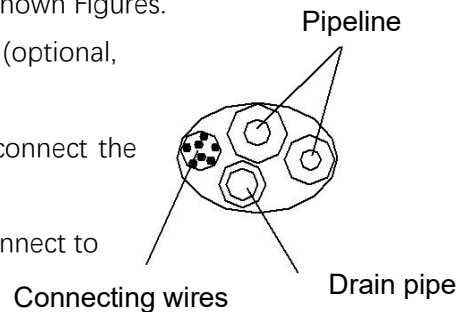

Fig 6
1. Connecting right back tube (similar to right lower tube) (optional, Refer to Fig.6)